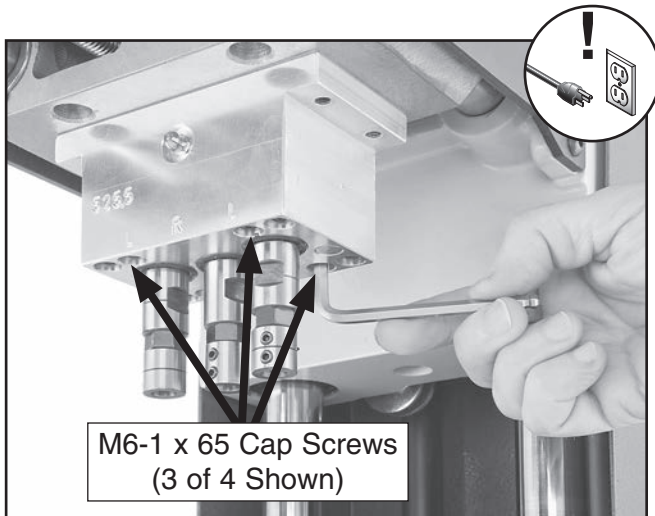

Figure 32. Removing inner cap screws.
- Remove the (4) M6-1 x 65 cap screws at the inside holes shown in **Figure 32**, then remove the boring head from the spindle.